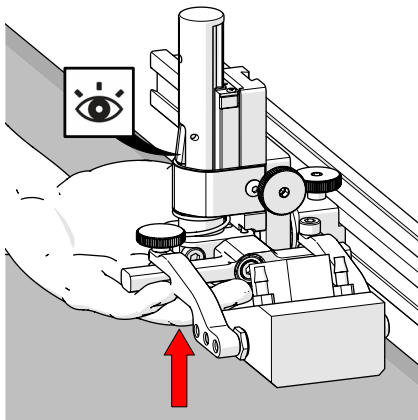
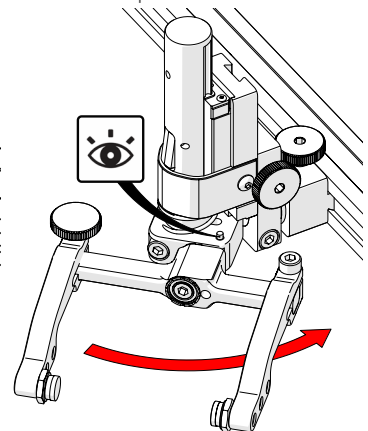

Fig. 148 - Latch probe holder
Fig. 154 - Stop post locates 90°
holder until the latch is fully exposed and snaps out to lock (Fig. 148).
1. Ensure the probe holder is in latched, upper position (Fig. 148).
To return the transverse adjustment to neutral (90°). The probe holder must be in the latched, upper position (Fig. 148). Rotate the yoke until the stop post contacts the base of the probe holder (Fig. 154). Then tighten the transverse adjustment screw.